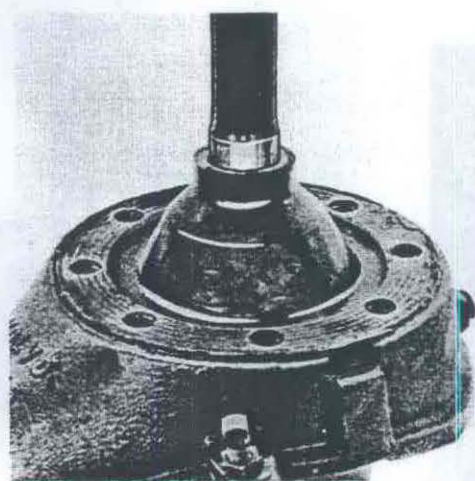

Fig. 46-108. Checking rubber dust cover
**NOTE!** Check that the rubber dust cover for the drive shaft is in good condition and is fitted properly in the steering knuckle support, Fig. 46-108 before it is fitted entirely in position.